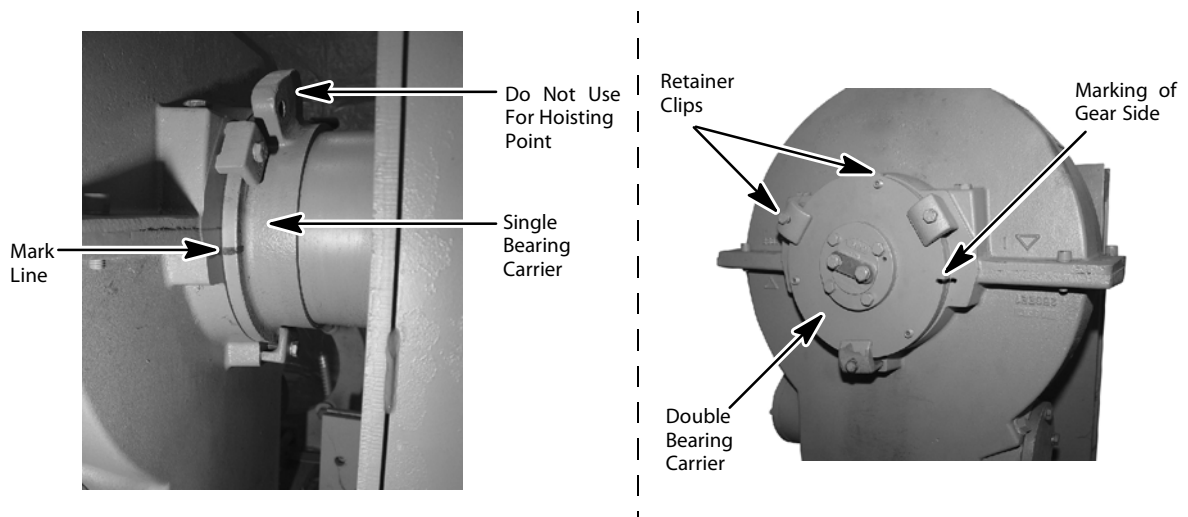

Figure 47 - Single (left) and Dual (right) Bearing Eccentric Marking
4. Mark a matching line from the single bearing eccentric to the gear case. See Figure 47.
5. Mark a matching line along the top of the dual bearing eccentric, across the gland ring, and onto the gear case. See Figure 47.